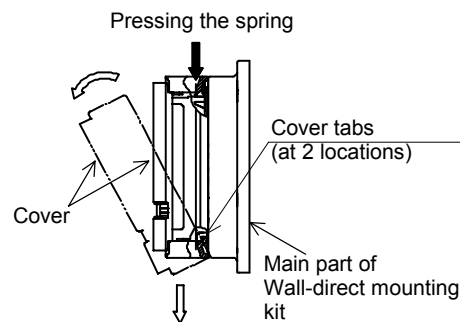

Figure 5. Removing and installing the cover
- 7) Place the cover back on the CO2 Stat main unit to complete the installation procedure. (See Fig. 5.)